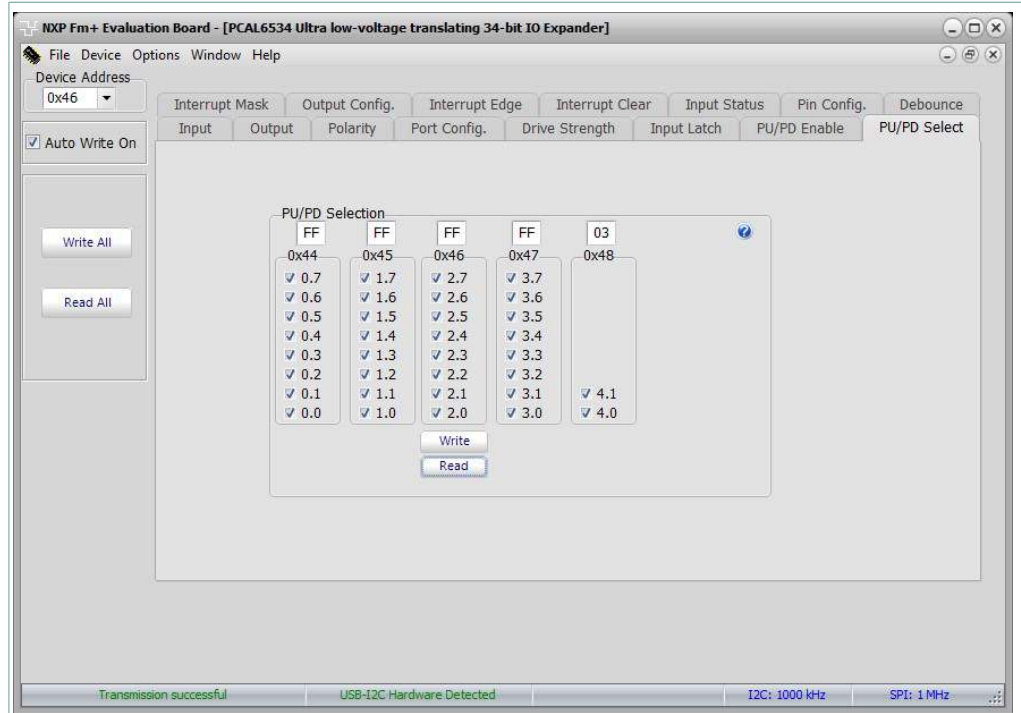

Figure 17. Device configuration screen for registers 44-48 hex
- 9. PU/PD select registers read or write are shown in Figure 17.